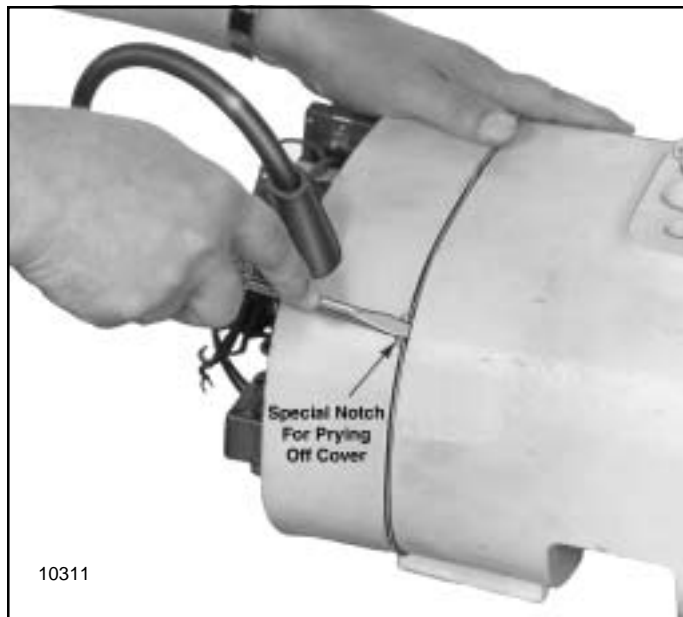

Figure 7-4. Prying Gear Case Cover from Hoist Frame
(3) Disconnect power supply flexible cable leads from terminals of contactor. Remove screw attaching ground leads to gear case cover and pull flexible cable and grommet from slot in cover.
(4) Disconnect motor leads from electrical control units. Number of leads depends on type of motor. (See wiring diagrams in Section VIII).
(5) Remove eight hex socket head screws and lockwashers securing gear case cover to hoist frame. Pry gear case cover partially off hoist frame using screw driver at special notches provided at opposite corners of cover (fig. 7-4) to provide access for removing limit lever key from control shaft. Tilt Woodruff key in shaft slot using drift punch (fig. 7-5) and pull out using pliers. Gear case cover with electrical controls attached can now be lifted from frame (fig. 7-6). Limit lever will drop free of frame as shaft is removed with cover. Discard gear case cover gasket.